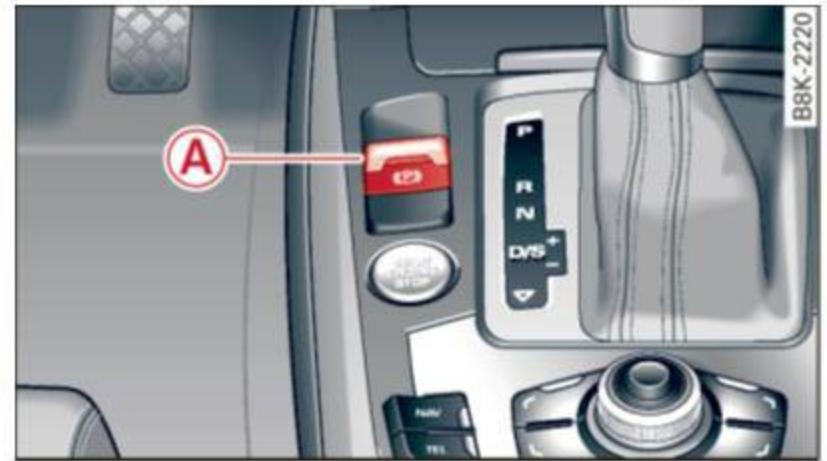

Fig. 78 Center console: Parking brake
- ▶ Pull on the switch **A** ⇒ *fig. 78* to apply the parking brake. The indicator light in the switch illuminates.
- ▶ Pull the button  ⇒ *page 76, fig. 78* to set the parking brake.
- ▶ Pull the switch  ⇒ *page 76, fig. 78* to apply the parking brake. ▶
- ▶ Keep the switch  ⇒ page 76, fig. 78 pulled and depress the accelerator. The parking brake stays applied and prevents the vehicle from rolling backward.
- ▶ In an emergency, pull the switch  ⇒ page 76, fig. 78 and continue to pull it to slow your vehicle down with the parking brake.